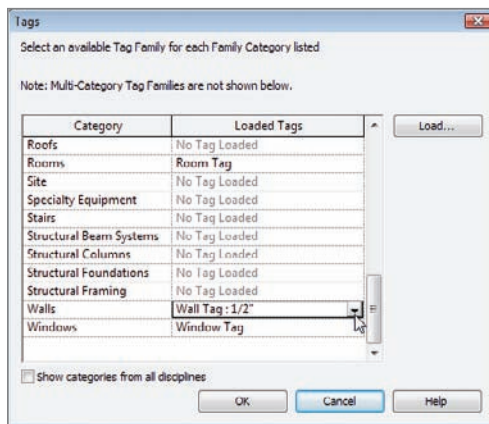

FIGURE 11.66 Changing the default tag for walls to Wall Tag: 1/2"
10. In the Tags dialog, scroll down to Walls, as shown in Figure 11.66.